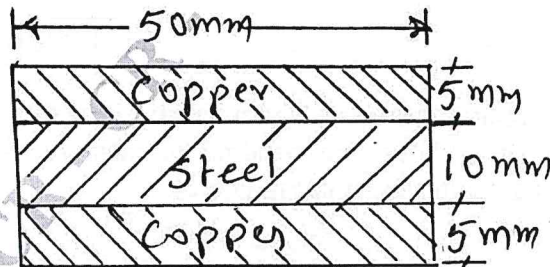

Fig.Q.2(c)
- b. Derive the relation between Young's modulus (E) and modulus of rigidity (G) in the form $E = \frac{9KG}{3K + G}$. (06 Marks)
- c. A compound bar is made of central steel plate 50mm wide and 10mm thick to which copper plate of 50mm wide and 5mm thick are connected rigidly on each sides as shown in Fig.Q.2(c). The length of compound bar is 1000mm at room temperature. If the temperature is raised by 100°C determine stresses in each material and change in length of compound bar. Assume $E = 200\text{GPa}$, $E_c = 100\text{GPa}$, $\alpha_s = 12 \times 10^{-6}/^\circ\text{C}$ and $\alpha_c = 18 \times 10^{-6}/^\circ\text{C}$. (08 Marks)